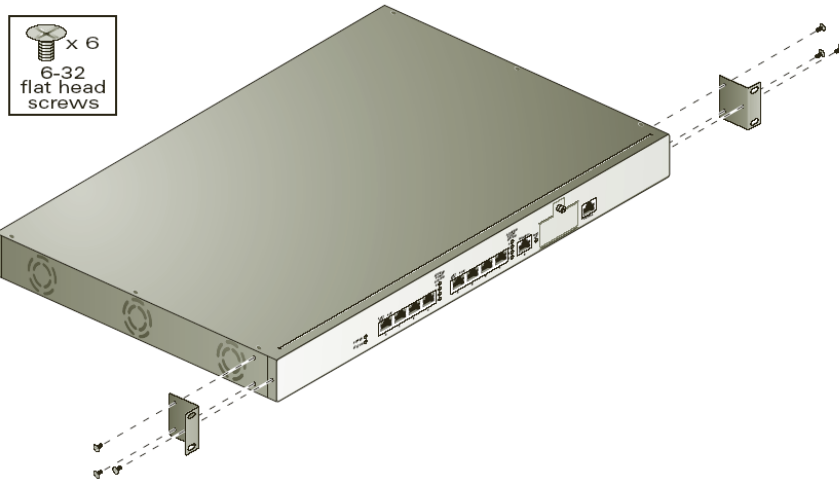

Figure 3-6 Attaching the Rack Mounting Brackets to the Aruba 800-series Chassis
2. Attach the rack mounting brackets to the switch chassis as shown in Figure 3-6.